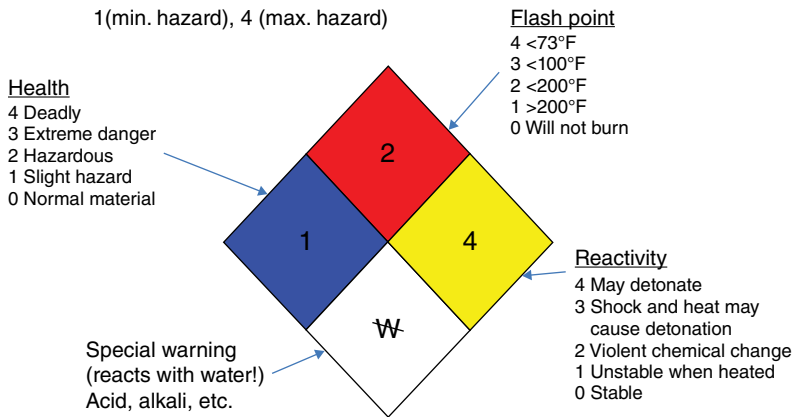

Figure 2.3 The NFPA diamond. Source: Reproduced with permission of U.S Department of Transportation.
When chemicals are transported by land, sea, or air, response to spills or leaks caused by accidents can be a major challenge to emergency response personnel, as they do not have the training or awareness of a local emergency response group close to a chemical facility. For this reason the NFPA, in collaboration with chemical industry, developed a visual diamond symbol for use on transportation vehicles, as seen in Figure 2.3.
- 4) The white section of the diamond at the bottom may be blank, but it is the place where any special hazards can be indicated. In this particular case in Figure 2.3, this section shows that the material reacts with water, so the emergency responders might use carbon dioxide (CO₂) as the fire-extinguishing media, as opposed to water. Public emergency responders are generally well educated in this diamond as well as the meaning of the colors, numbers, and symbols within it.